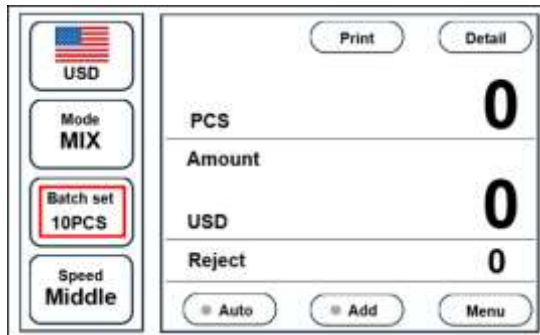

Figure 29
1) Touch the “Batch set” key in the main interface, the batch number in the main interface will cycle between “10/25/50/100/200/OFF”, as in Figure 29, the left side of the main interface displays the logo “Batch set:10pcs”. When the batch number is “OFF”, the maximum stacker capacity is 200, when it reaches 200, the machine will stop running automatically.